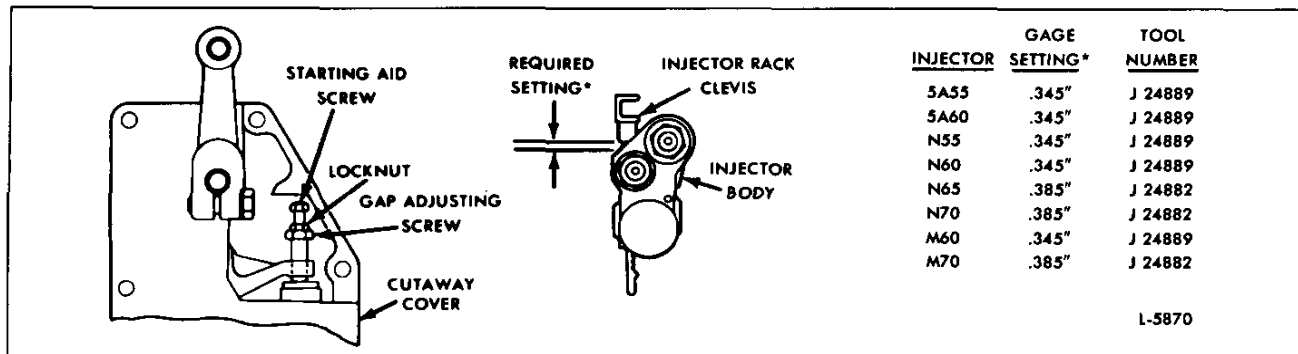

Fig. 6 – Starting Aid Screw Adjustment
- a. Install a cutaway governor cover assembly, on the governor housing (Fig. 6).
- c. Hold the gap adjusting screw to keep it from turning and adjust the starting aid screw to obtain the required setting between the shoulder on the injector rack clevis and the counter bore in the injector body (Fig. 6). Move the gage back and forth along the injector rack until a clearance of 1/64" is noted. The setting is measured at the No. 3R injector rack clevis. Tighten the locknut on the starting aid screw sufficiently to prevent oil leakage as well as to hold the adjusting screw setting.